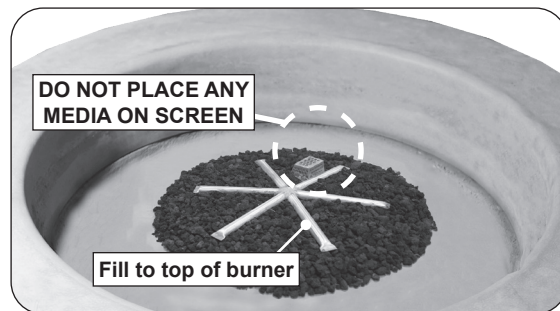
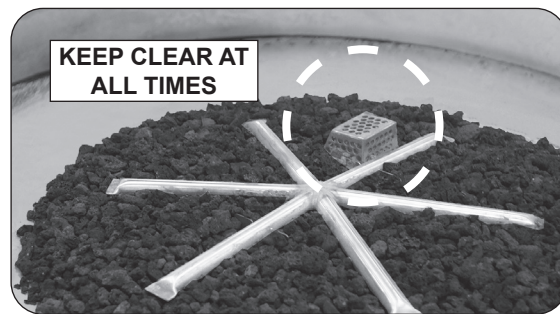

Fig. 37-1 Place lava granules
Fig. 37-2 Screen detail
1. Pour the 10 lb bag of lava granules into the burner area (with the exception of the screen). Spread the granules within the burner area as shown in Fig. 37-1 and Fig. 37-2. **Only fill the granules up to the top of the burner tube.**